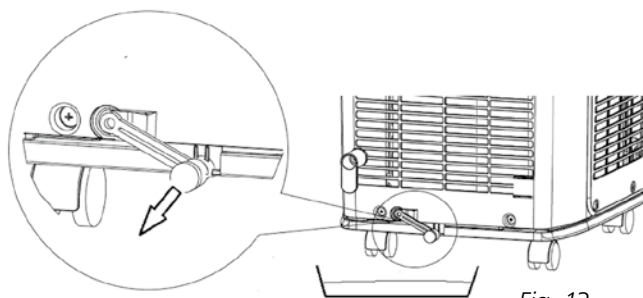

Fig. 13
- 4 Remove the rubber plug from the drain tube and let the water run out. (\pm 0.5 litres). See fig. 13.